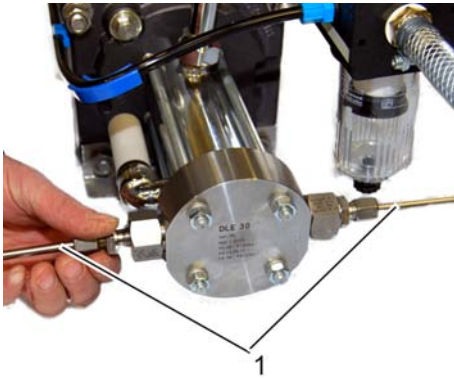

Fig. 55: Inlet and outlet line
3. ➔ Unscrew inlet and outlet line (Fig. 55/1) from inlet and outlet connection of booster head.